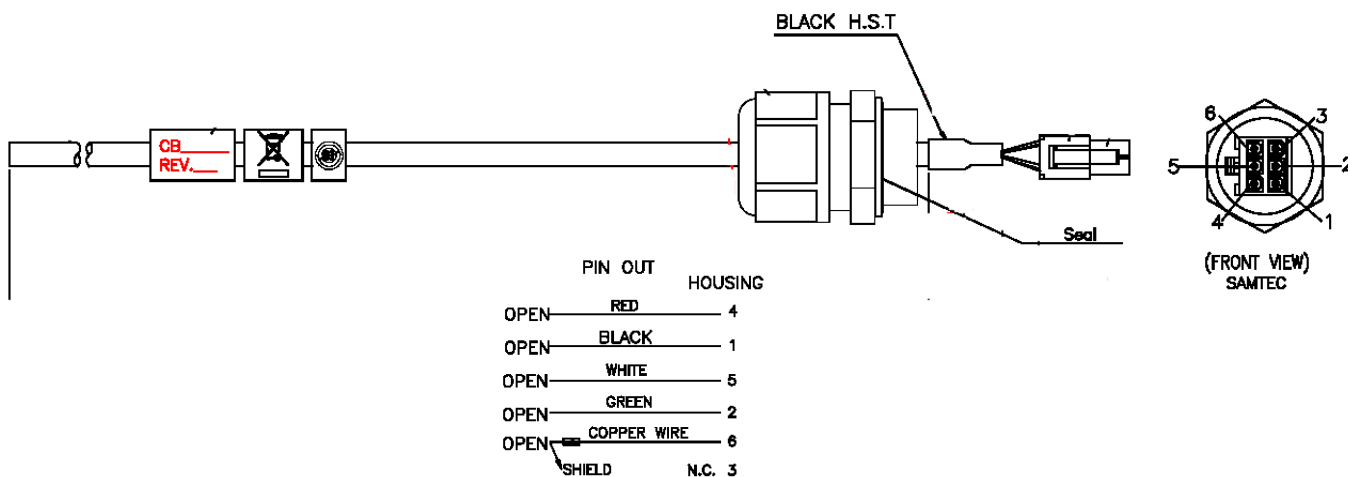

Figure 2-29: Power Cable for BreezeCOMPACT
- 8 Connect the wires to the mini-fit connector as follows (see Figure 2-29):
- 10 When connecting to a circuit breaker, see Figure 2-29 below for the location on the cable. Use a 20A breaker.